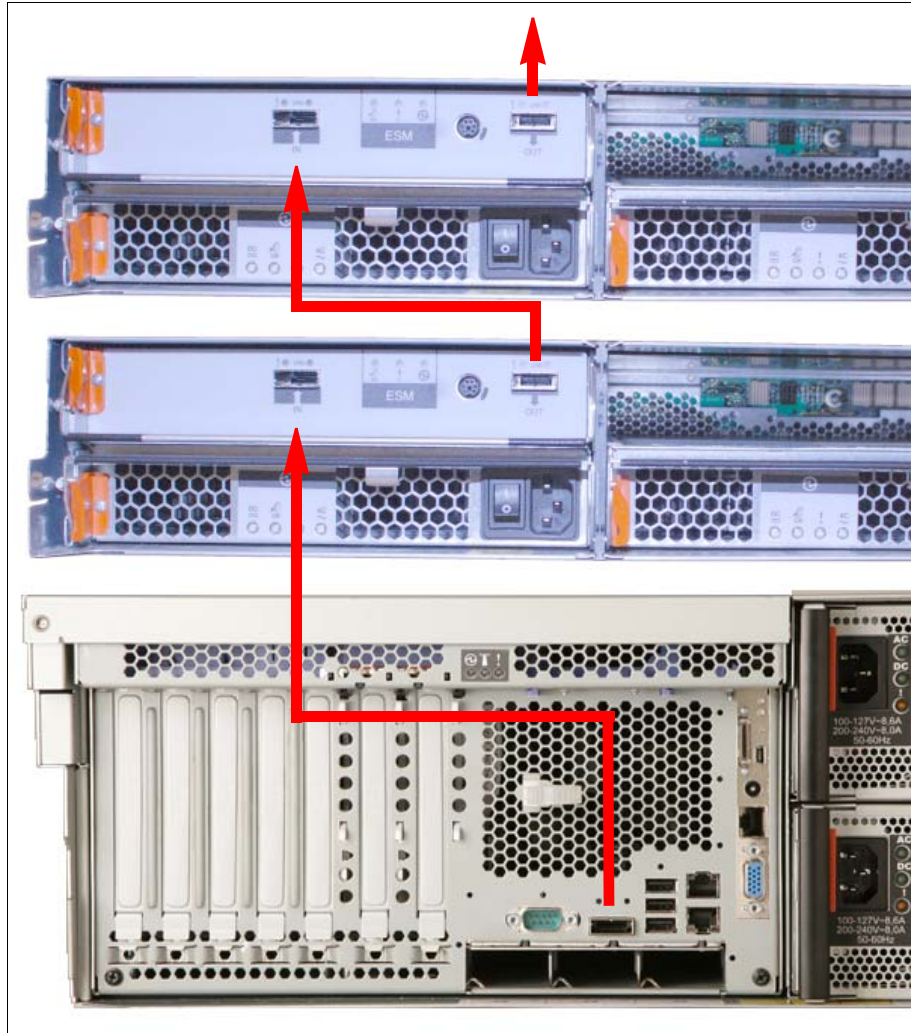

Figure 3-32 EXP3000: rear view cabling
- a. Attach one end of your 3 m SAS cable to the host port, shown in Figure 3-32 on page 146.